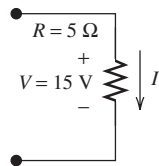

FIGURE P2.40 Circuit for Problem 2.40.
2.40 (B) Find I in the circuit shown in Figure P2.40.